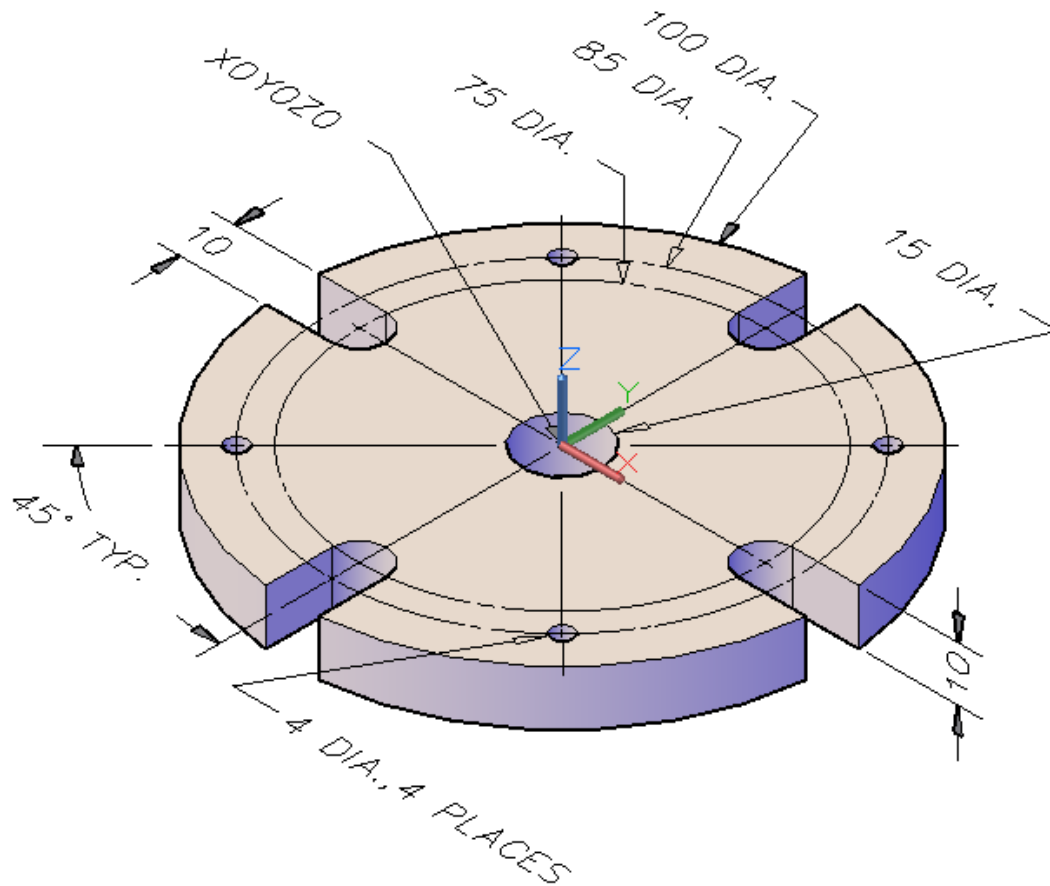

Figure Step 2
Step 2 Save the drawing with the name: AutoCAD 3D Workalong 03-2. (Figure Step 2)